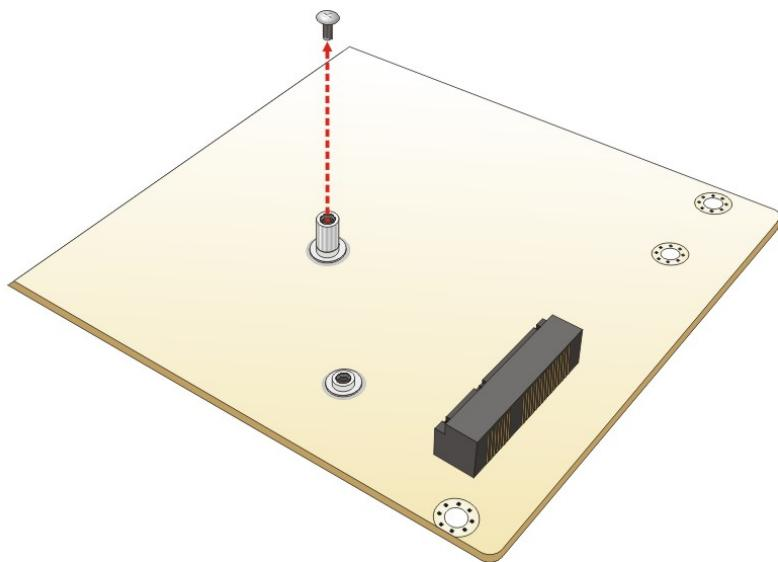

Figure 4-2: Removing the Retention Screw
Step 2: Remove the retention screw as shown in Figure 4-2.